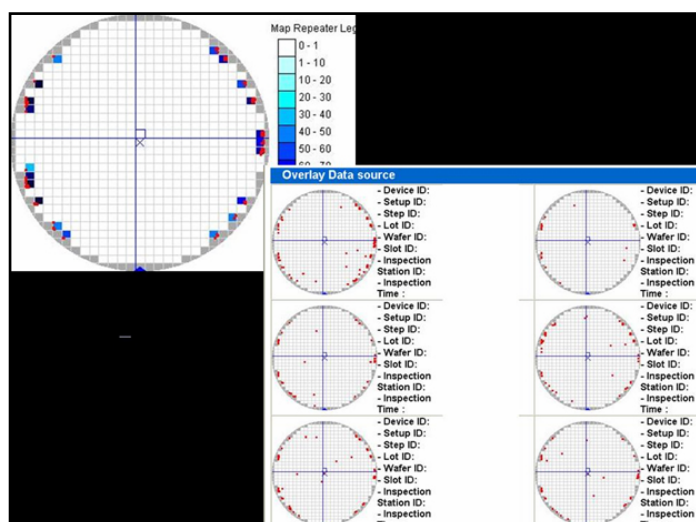

Figure 5 Slurry residue at wafer edge (CMP)
ILayer repeater was used to identify real root cause of manufacturing problems and set up a proper preventive maintenance procedure to prevent its recurrence. Figures 5 through 9 show the results of actual manufacturing problems that were detected by layer repeater analysis. The small wafer maps on the right side of each figure are a sample of the individual maps that were overlaid for the analysis. The large wafer map on the left side of each figure shows a map of the repeater locations. As the number of wafers containing the repeater increases, the die color becomes darker.
- Slurry residue at wafer edge (CMP) – Figure 5